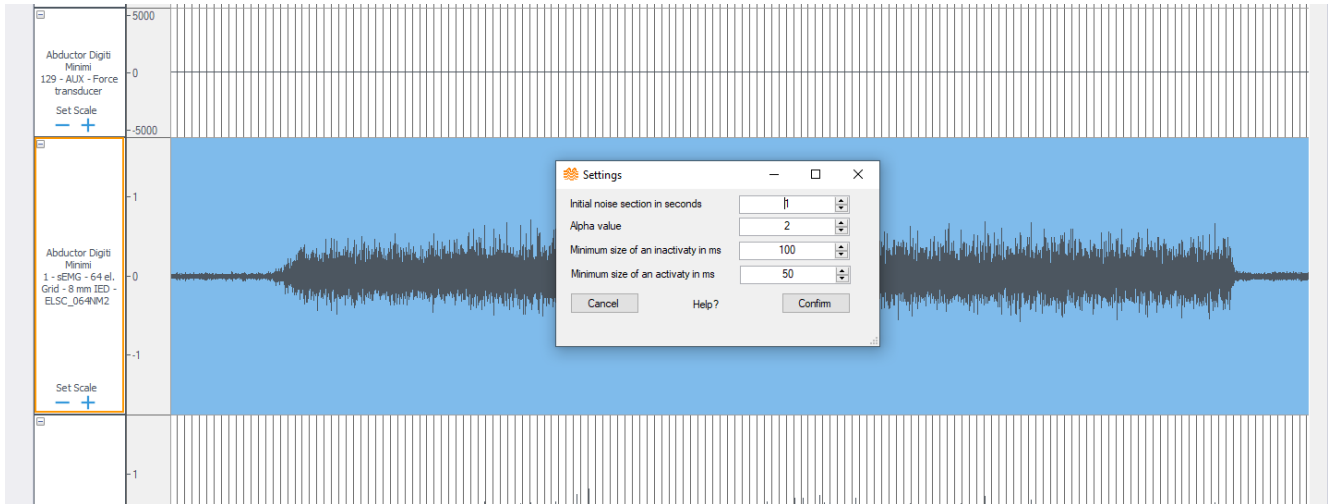

Fig 10.3: Activation Instant Detection parameters.
When the Activation Instant Detection plug-in is selected, the window shown in figure 10.3 appears. The Initial noise section and the Alpha value correspond to the initial interval and the alpha parameter of the formulas (3) and (4). While the Minimum size of an inactivity should be greater than 125ms and the Minimum size of an activity should be between 5 - 40ms.